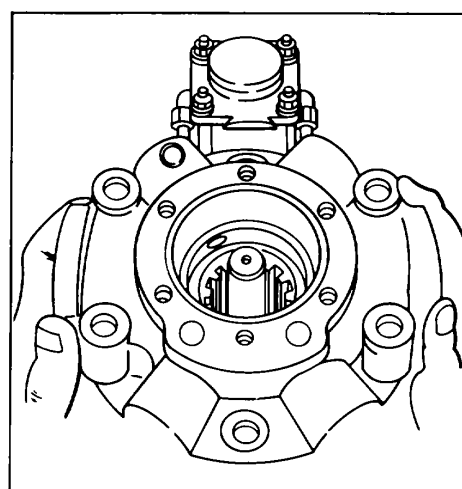

Figure 150.
26. Place new gasket (39) on housing and position cover as shown in Fig.150 utilizing reference marks in housing and cover. To operate properly, the cover must be assembled in its original position. Install six hex bolts (40) and lock washers (4). Torque bolts opposite one another to 450 in. lbs.